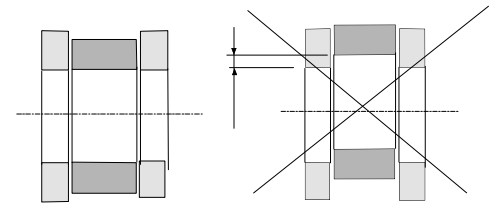

Fig. 1
- 1.2 Align the bolt hole. The middle section must line up with the support on each side. (see Fig. 1). Use a jack or hoist if necessary.